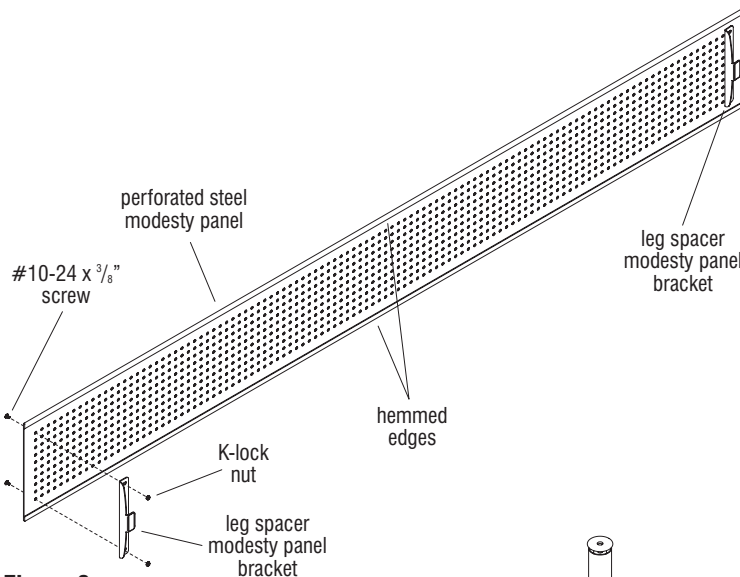

Figure 6
1. Carefully rotate the perforated steel modesty panel onto its side on a soft, protective surface and rest the panel against a wall or sturdy surface (Figure 6).
2. On the side of the steel panel with the hemmed top and bottom, align the mounting holes of one leg spacer modesty panel bracket with the first vertical row of holes on the end of the perforated steel modesty panel as illustrated in Figure 6. Secure the bracket to the panel using two #10-24 x 3/8" screws with heads on the non-user side of the panel and K-lock nuts on the user (hemmed) side of the panel that will face under the table. Repeat this step to install the second bracket to the opposite end of the panel (Figure 6).